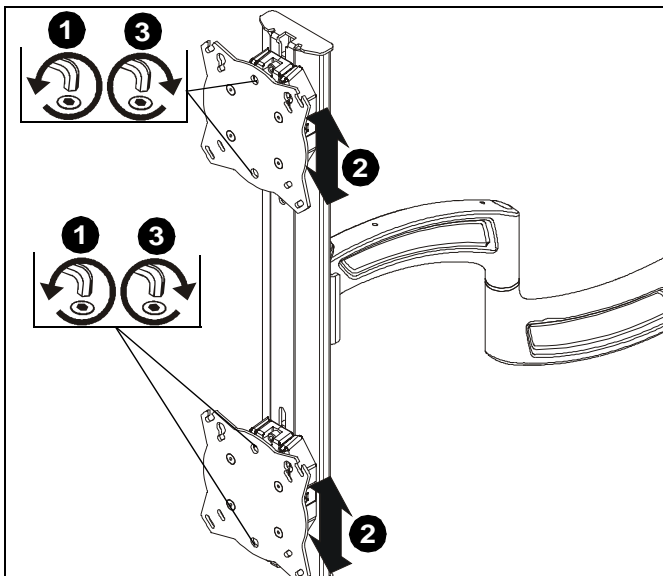

Figure 8
1. Loosen height adjustment screws for each faceplate to adjust height. (See Figure 8)
2. Adjust faceplates to desired height. (See Figure 8)
3. Tighten height adjustment screws to lock display's position. (See Figure 8)